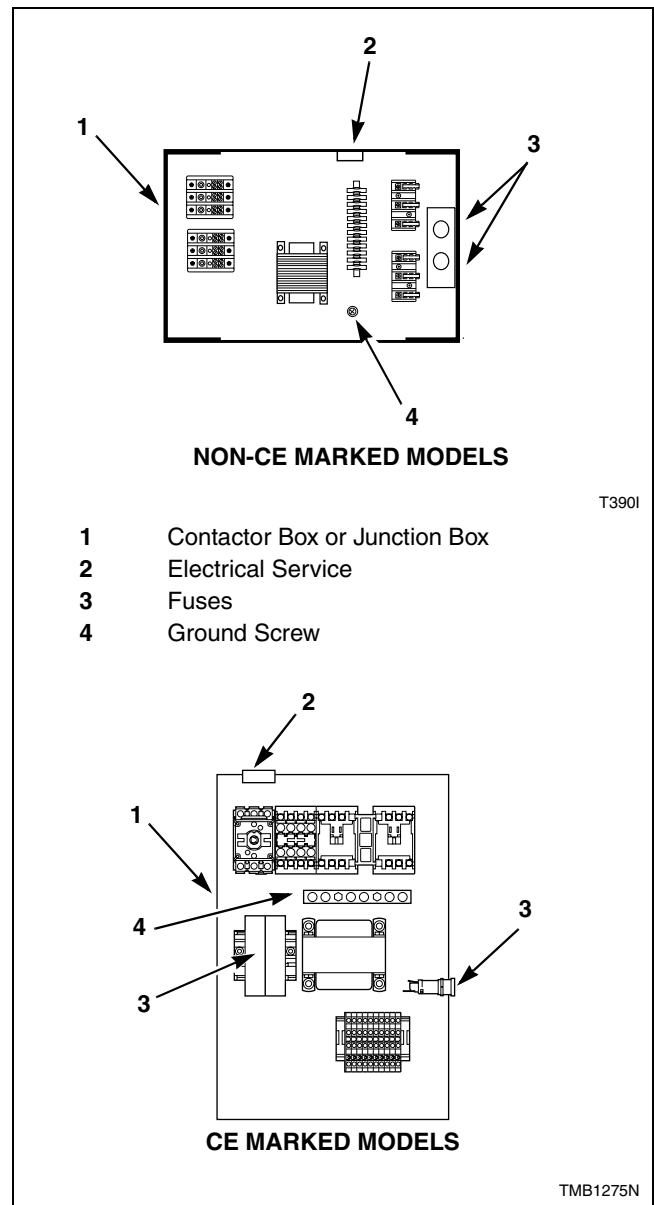

Figure 18
2. Connect conduit-encased leads to the disconnect switch or circuit breaker. Connect wire leads to the appropriate labeled terminal on the terminal block. The ground wire must be connected to the ground connection as shown in *Figure 18*.